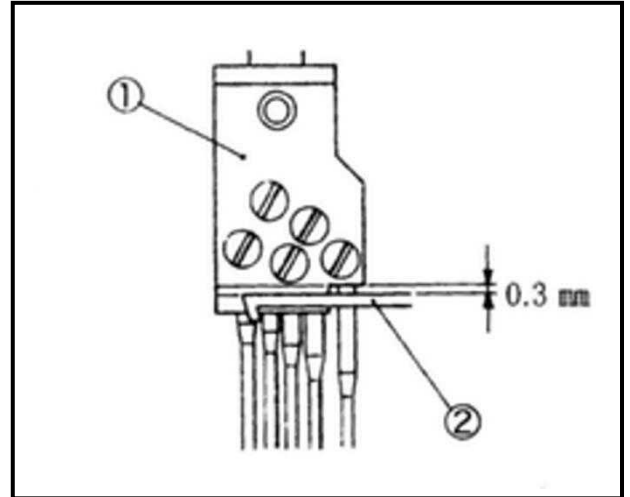

Fig.7
2 当针杆在最低位置和压脚完全抬起时，针舌①和喂针②需留间隙0.3mm。(Fig.7)
2. As standard , make the clearance between the notch of the needle clamp ① and the top cover thread hook② to 0.3mm when the needle bar is at the lowest point and the presser foot is raised by pressing the presser foot pedal fully. (Fig. 7)